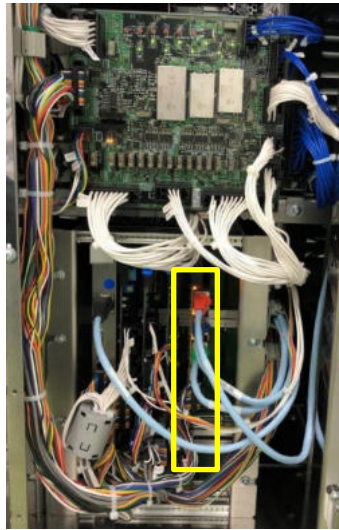

Figure 2 EVSC board
- (1) Change the Dip-SW1 (No.6) to ON of the EVSC board (Figure 2 and 3).